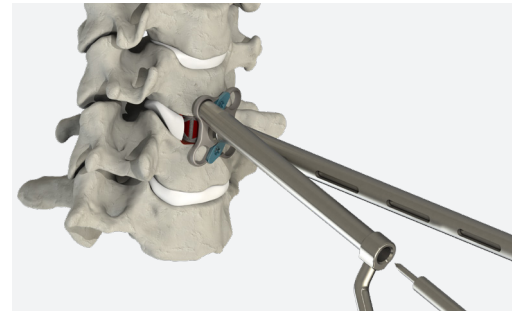

Figure 11
- ▲ To use, attach the Handle and insert the distal end of the Awl through the guide as it is placed firmly against the screw hole opening (Fig. 11). Puncture the bone by applying axial force to the end of the Awl Handle. Should a Drill be desired, attach the Handle and prepare the screw hole by rotating the Drill Handle clockwise.